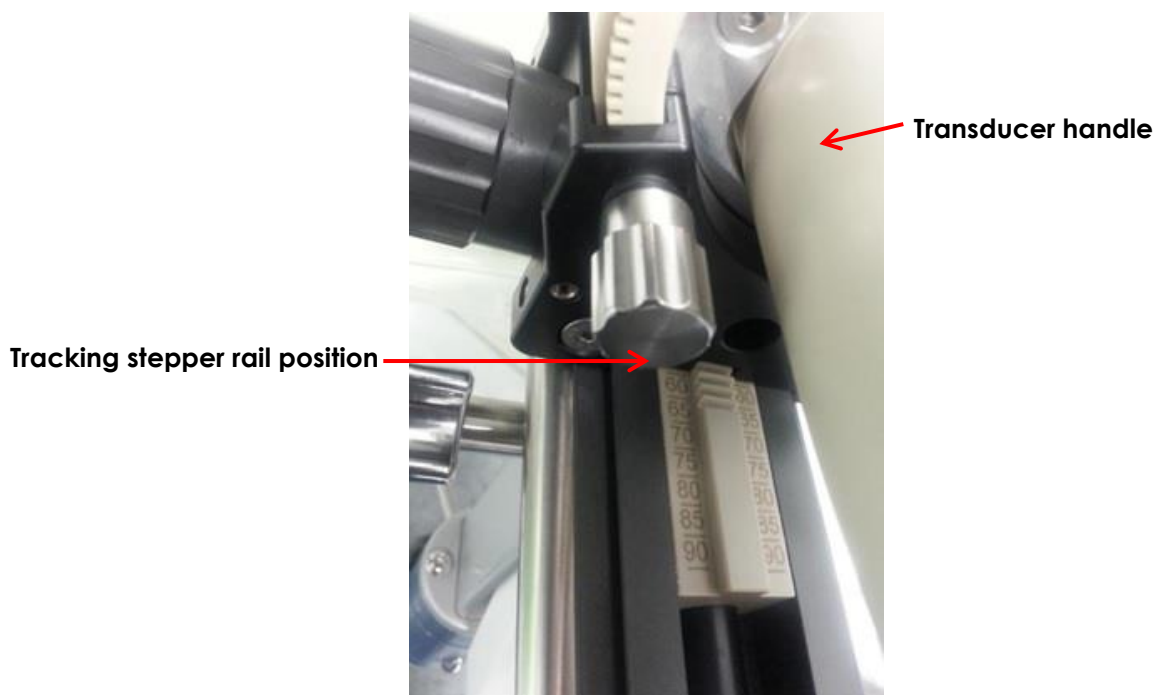

Figure 40: Tracking Stepper Rail Position
3. Advance the transducer along the *tracking stepper rail* to the point shown in Figure 40.